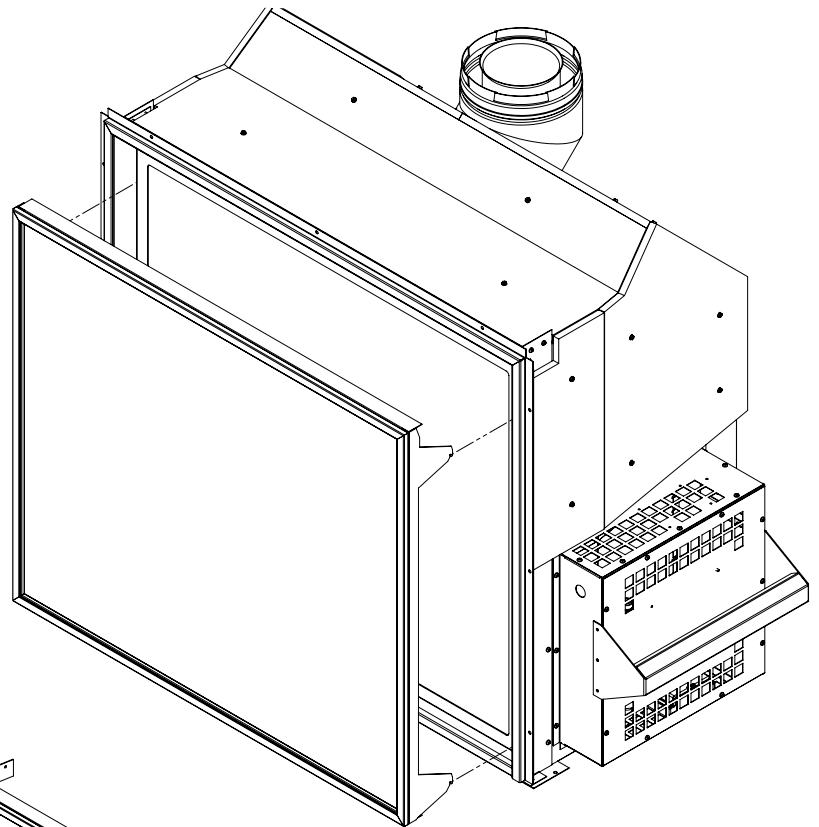

Figure 100: Safety Screen Removal
1. Firmly grip the safety screen with from both sides and gently lift screen off the mounting brackets and pull back (see Figure 100).